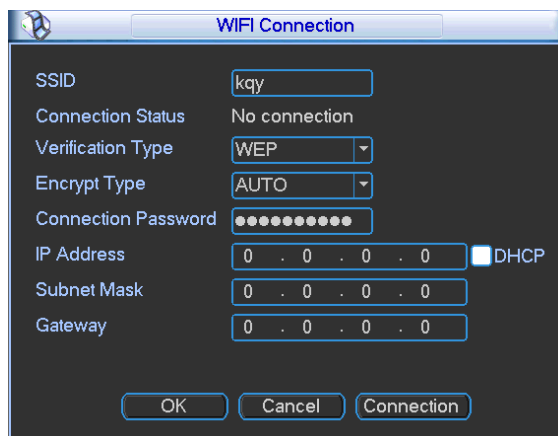

Figure 5-24
- See Figure 5-24.
After successfully connection, you can see the following interface. You can see it is connected now. See Figure 5-24.